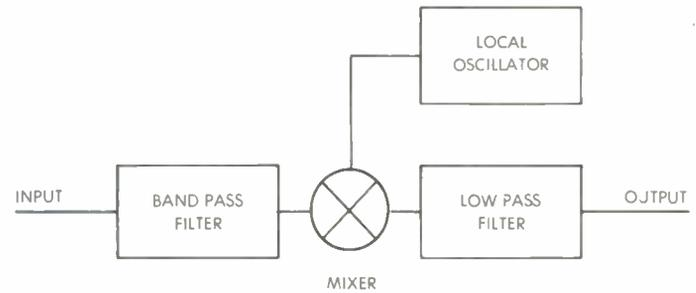

Figure 2
There are many UHF to VHF converters available for home TVs, but these are unacceptable for CATV head-end use because of high noise figures and frequency drift. Breaking a typical converter into functional blocks (figure 2), one finds at the input, a tunable filter which, in turn, feeds a diode mixer. The converting local oscillator or (LO) is tunable so that the unit will tune over the entire UHF spectrum. The output of the mixer is fed to a filter to reject the unwanted signals. In some cases VHF amplification is provided. There are variations using a transistor mixer or using one transistor as a mixer-oscillator.